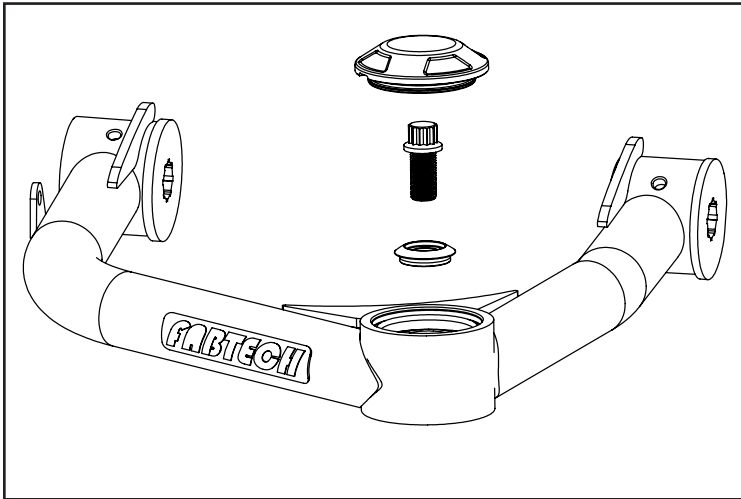

FIGURE 6 - STEP 10
- Attach the new upper control arm to the knuckle by inserting the FT90152 (Upper misalignment) into the uniball bearing then the 1/2-20 - 12 point bolt. Torque to 106 ft-lbs. Install FT90154 (Bearing cap). Torque the control arm pivot bolt to 148 ft-lbs **SEE FIGURE 6**